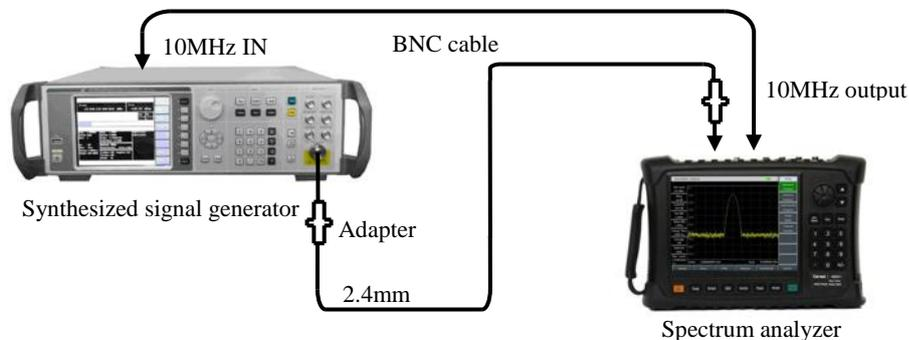

Fig. 12-17 Setting for Input Attenuator Switching Uncertainty Test
- 1) Connect the test equipment as shown in Fig. 12-17. The spectrum analyzer will provide the frequency reference for the synthesized signal generator 1464C.